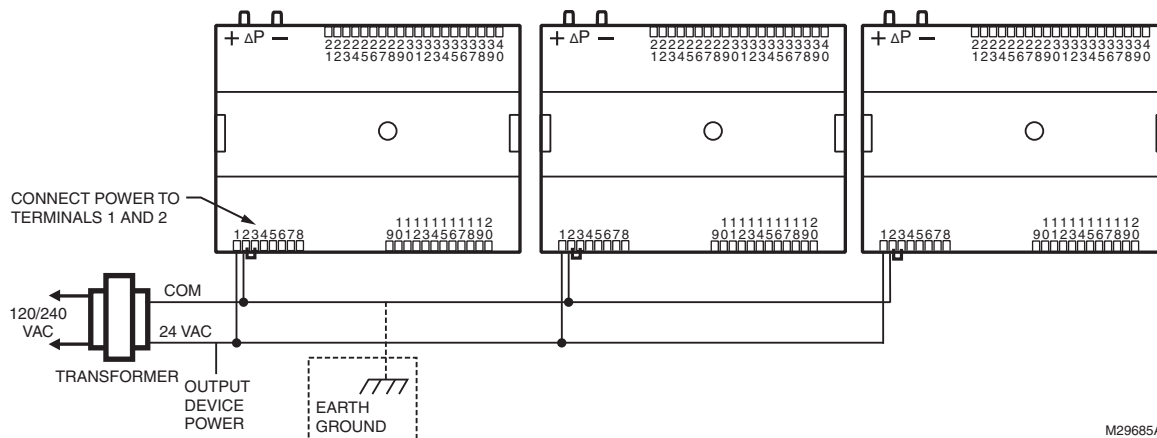

Fig. 11. Power wiring details for two or more controllers per transformer.
- For multiple controllers operating from a single transformer, the same side of the transformer secondary must be connected to the same power input terminal in each controller. Controller configurations will not necessarily be limited to three devices, but the total power draw, including accessories, cannot exceed 100 VA when powered by the same transformer (U.S. only). The earth ground terminal (terminal 3) must be connected to a verified earth ground for each controller in the group (see Fig. 11 on page 6).
More than one controller can be powered by a single transformer. Fig. 11 shows power wiring details for multiple controllers.